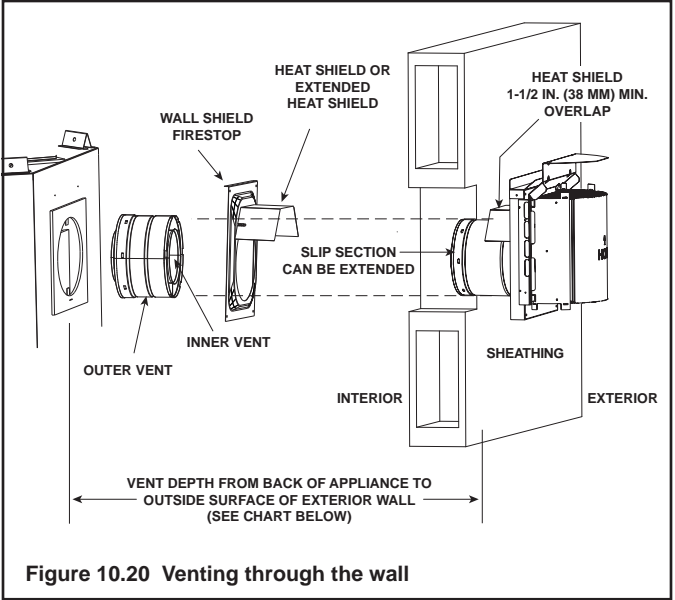

Figure 10.20 Venting through the wall
- **DO NOT** remove the heat shields attached to the wall shield firestop and the horizontal termination cap (shown in Figure 10.20).